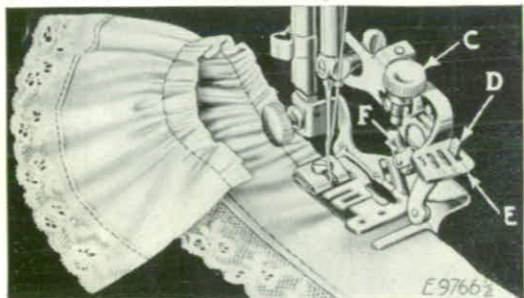

FIG. 2.
Raise the needle bar to its highest position and remove the presser foot. Attach the ruffler foot (A) to the presser bar from the right and fasten by means of the thumb screw, at the same time placing the fork arm (B) astride the needle clamp as shown in Fig. 2.
The adjusting finger (F) is not intended for gathering and should be moved forward or away from the needle, as shown in Fig. 2.